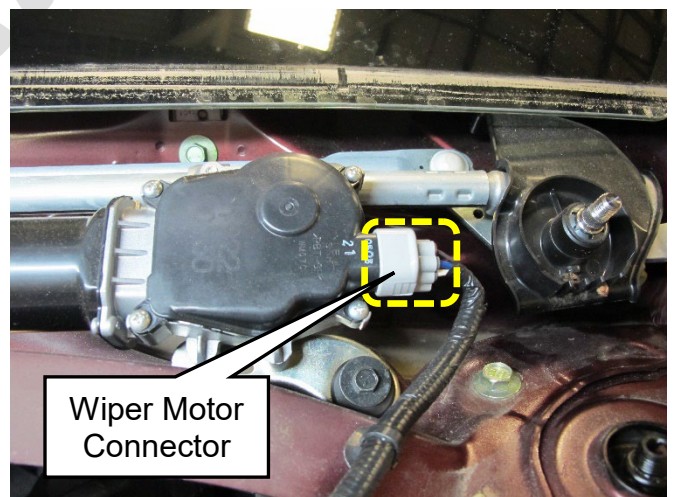

Figure 22
17. Install the wiper motor connector (Figure 22).